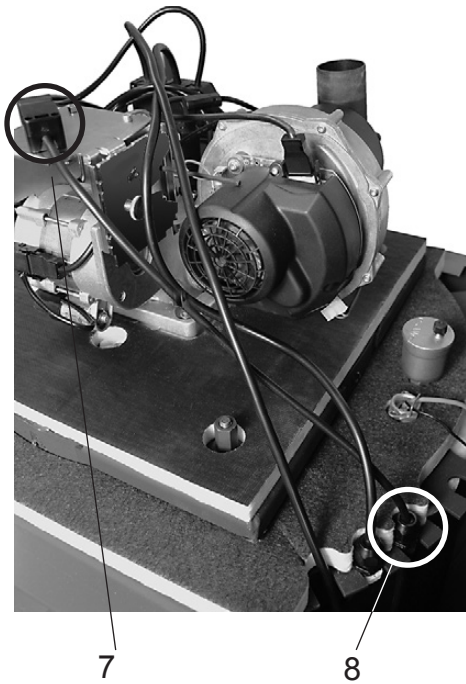

Fig. 11
12. Make plug-and-socket connections (7, Fig. 11). Pull the plug cable further out, to do this, loosen the PG unions (8). The burner must be connected to the boiler with the standard plug connection.